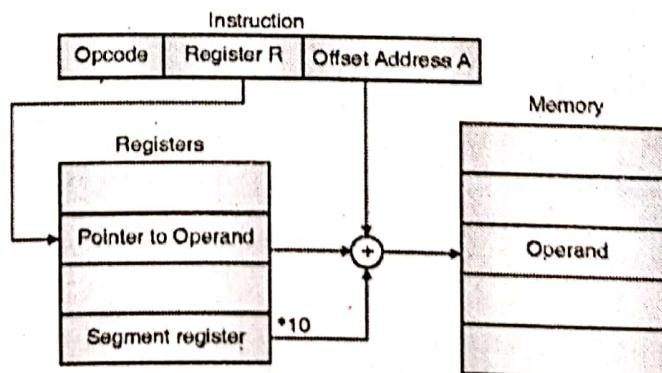

Fig. 7-Q. 5(a) : Register relative addressing mode
- In this addressing mode the effective address is given by a base register or index register along with an 8-bit displacement, specified in the instruction. This effective address is added with the segment register * 10H to generate the physical address as shown in Fig. 7-Q. 5(a).